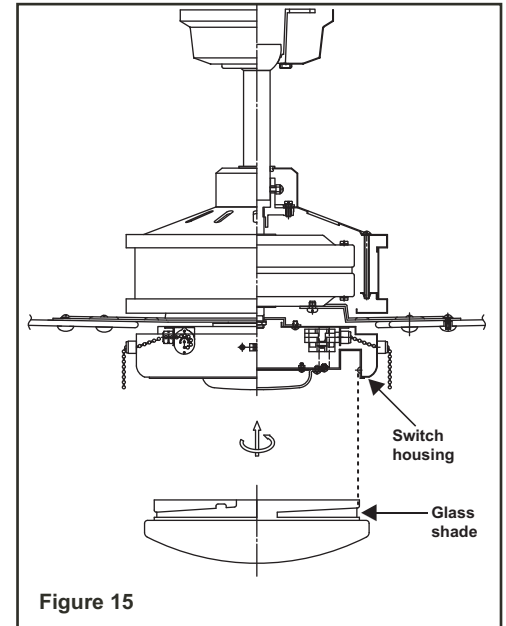

Figure 15
Step 5. Raise glass shade up against the LED light kit, and secure it to fan by turning light kit shade clockwise until snug. DO NOT OVERTIGHTEN. (Fig. 15)